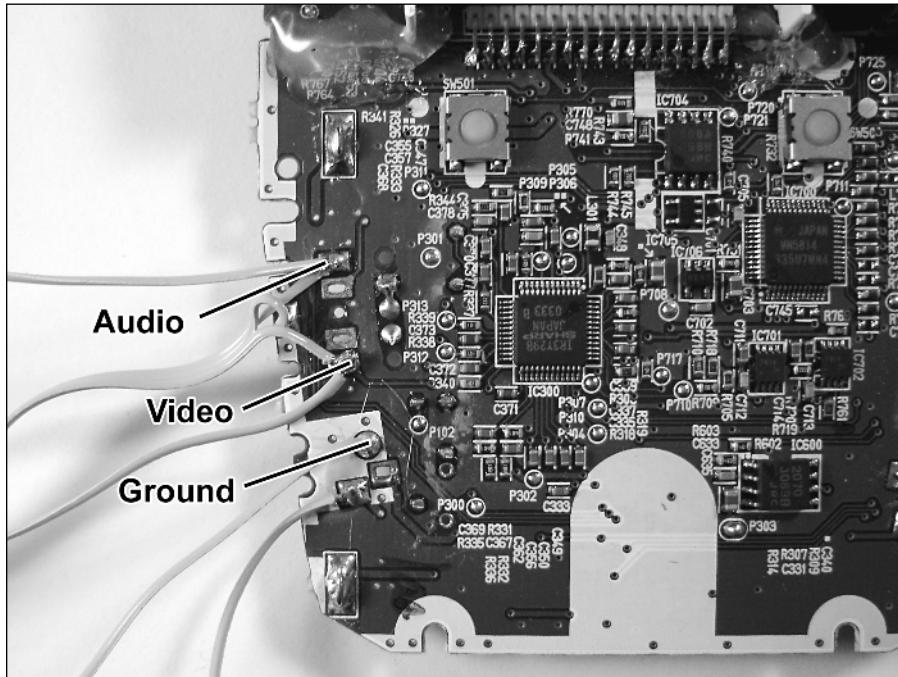

FIGURE 8-32: Attach wires to these three spots before installing the TV screen.
1. First, attach three wires to the spots on the front of the TV board shown in Figure 8-32. The audio wire needs to be about 8" long, and the other two can be about 4".